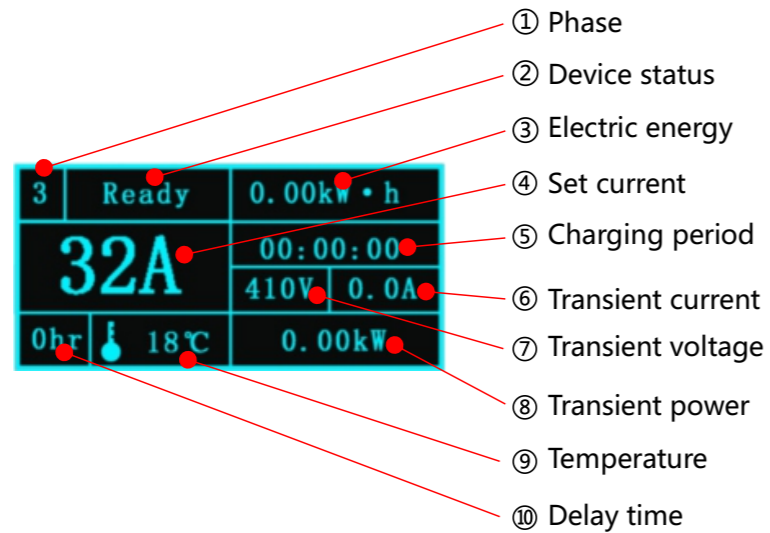

Figure 3 Display interface
When the IC-CPD work incorrectly, the corresponding parameters(i.e., ① Phase, ⑦ Transient voltage, ⑨ Temperature of figure 3) in the interface of the OLED will blink (i.e., warning message).